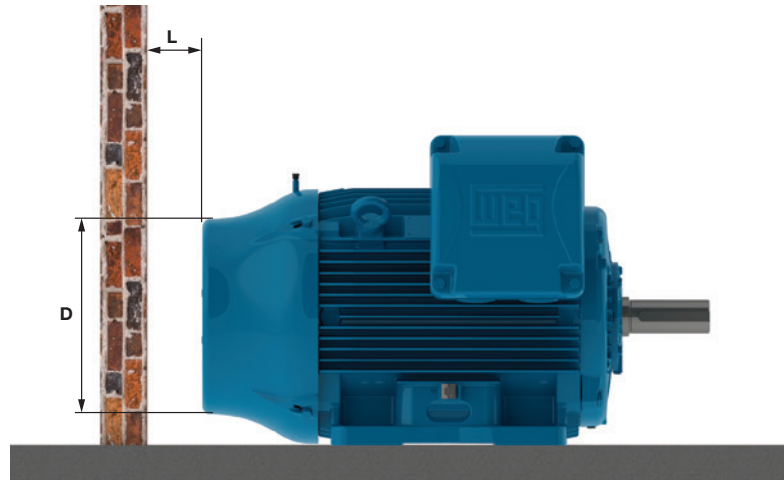

Figure 50 - Minimum clearance to the wall
- Ensure that the air inlet and outlet opening are not blocked. The minimum clearance to the nearest wall (L) should be at least  $\frac{1}{4}$  of the fan cover diameter (D), see Figure 50. The intake air temperature must be at ambient temperature.